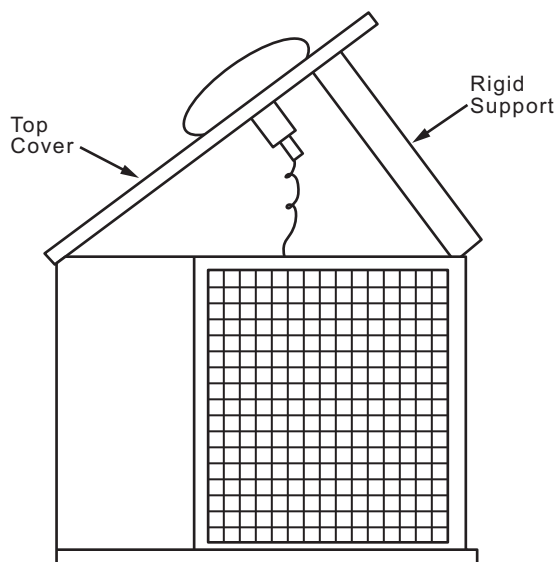

Fig. 34 — Pivot and Support Top Cover
2. Remove screws holding rear corner post and top cover in place. Pivot top cover up 12 to 18 inches (305 to 457 mm) and support with a rigid support. See Fig. 34.